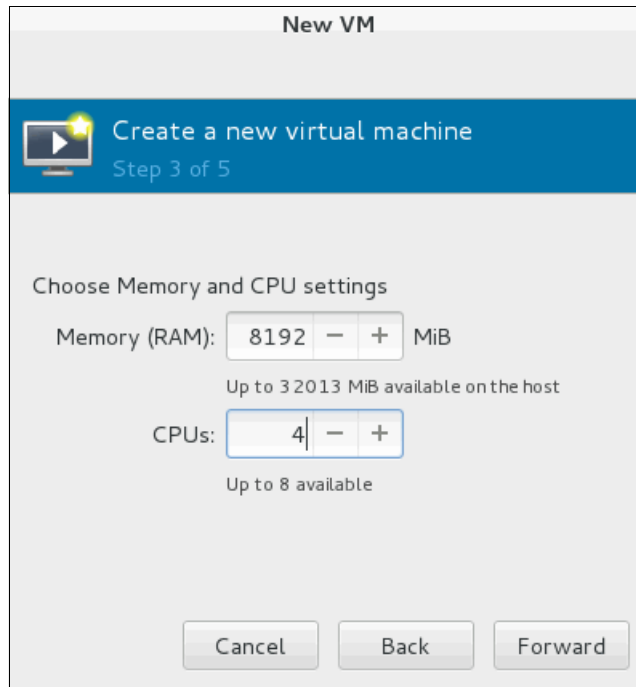

Figure 3-25 Choose memory and CPU settings
5. In the next panel (Figure 3-25), specify memory and CPU settings. This example specifies 8 GB of memory and 4 CPUs. Click **Forward** to proceed to the next step.